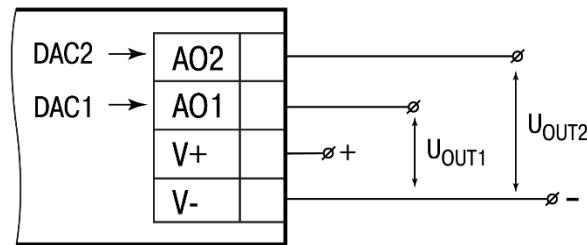

Fig. E.6
- Connect a reference voltage source and a measuring device of accuracy class at least 0.05 to the output (Fig. E.6).